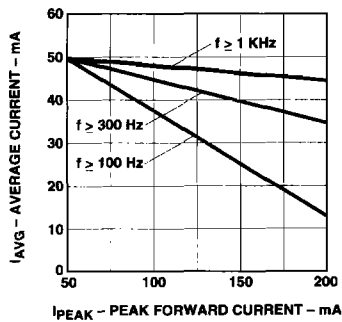

Figure 5. Maximum Average Current vs. Peak Forward Current.
- Refer to Figure 5 for pulsed operating conditions.